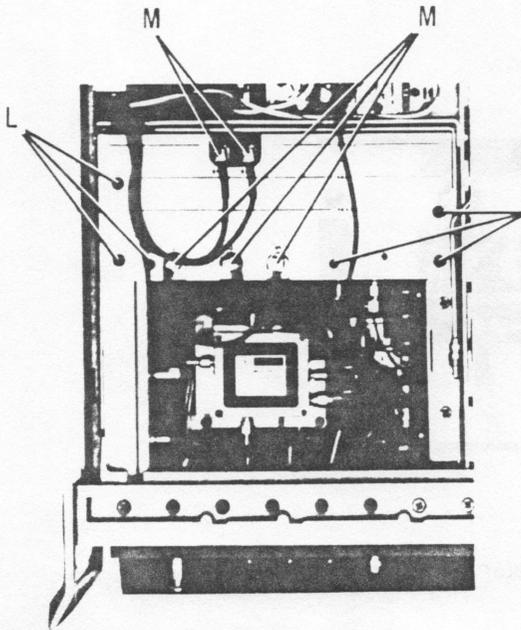

Figure 7. HP 85660A/B RF Module
- a. Remove A6 RF Module Cover by removing six screws (L), Figure 7, and five cables (M), Figure 7.
- q. Replace A6 RF Module Cover using six screws (L), Figure 7. Reconnect five cables to RF Module (M), Figure 7.